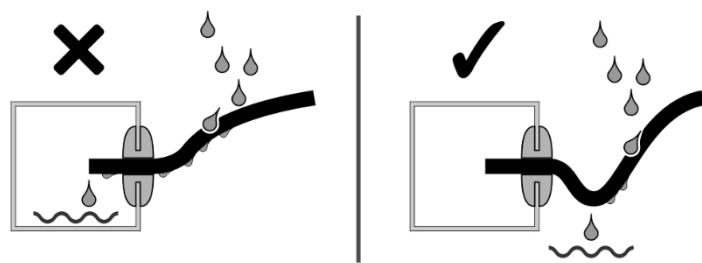

Figure 2. Drip loop
- Arrange cables so that they arrive at connectors from below. Make sure that it is impossible for water to flow down cables and accumulate at connectors. See Figure 2. If necessary, provide extra cable slack and create 'drip loops' before connectors.